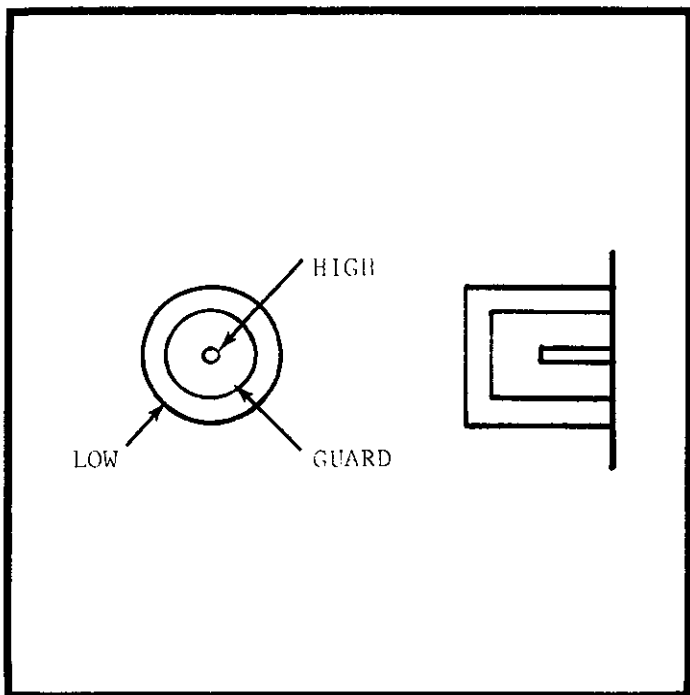

FIGURE 6. Triaxial Receptacle
a.) Connections to guard. The INPUT terminal (J302) is a guarded receptacle (Gremar, Type 6804) with a center High contact and an outer Guard ring. The EXTERNAL INPUT terminal (J303) is a guarded triaxial receptacle (Gremar, Type 5632A) with a center High contact, an inner Guard contact and an outer Low contact. A drawing of the connector construction is shown in Figure 6.